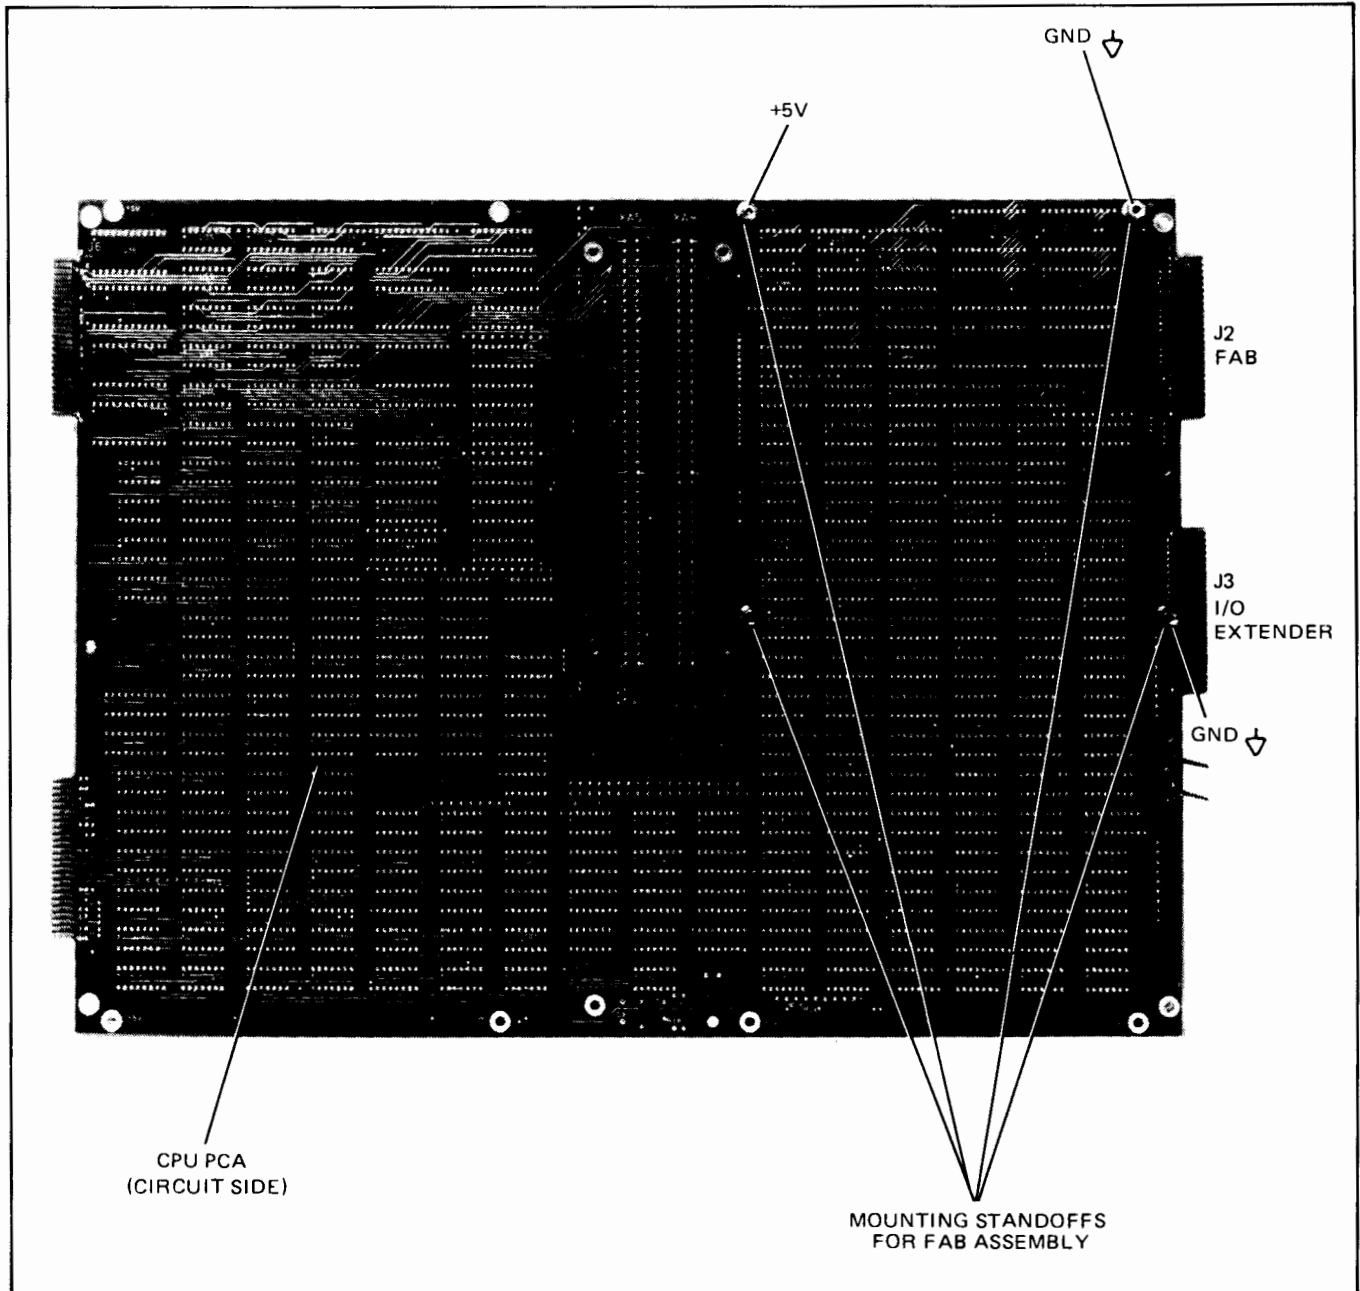

Figure 1. Firmware Accessory Board Mounting Details
- d. If presently installed, remove FAB connector assembly from FAB J1 and CPU PCA connector J2. Remove the four screws and lockwashers attaching the FAB to CPU PCA standoffs and remove FAB (figure 1).